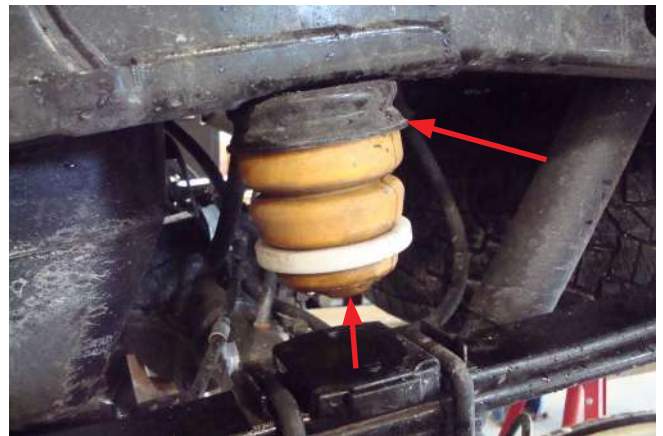

Fig. 3
2. Remove the jounce bumper assembly by using a metric socket and extension. You can access the bolt by using the hole in the middle of the jounce bumper (Fig. 3). Discard jounce bumper assembly.